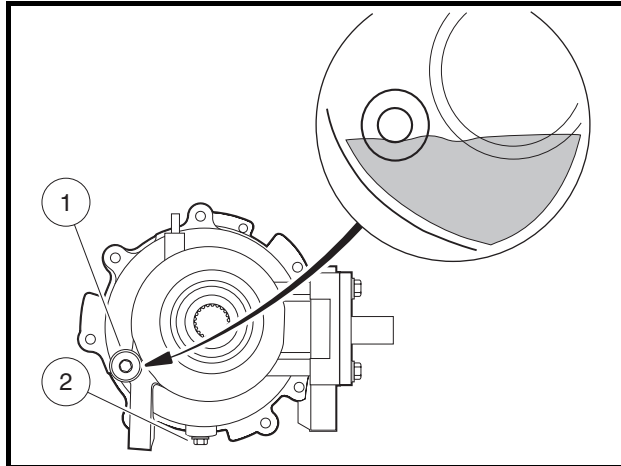
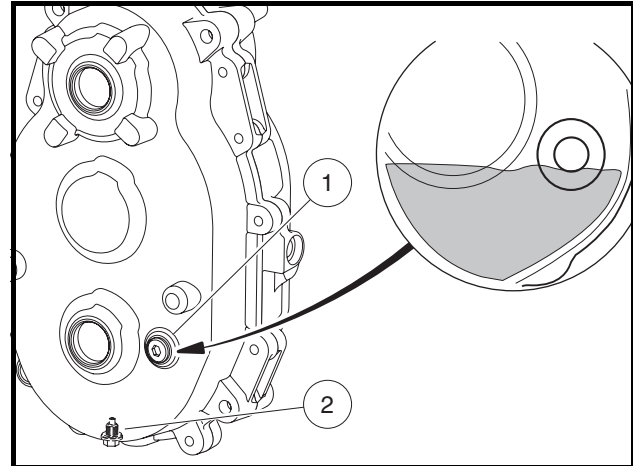
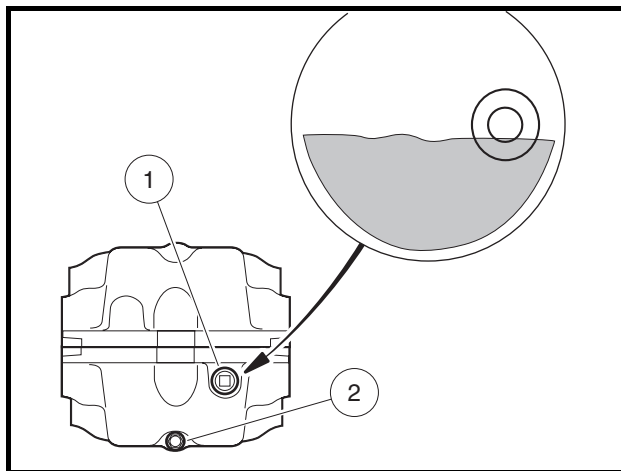

Figure 10-16 Front Differential Lubrication Level
Figure 10-17 Transmission Lubrication Level
Figure 10-18 Rear Differential Lubrication Level
Each gearcase component is equipped with two oil port plugs (1 and 2) (**Figure 10-16, Figure 10-17, and Figure 10-18**). When the vehicle is on a level surface, use the level indicator hole (upper plug) (1) as a lubricant level indicator. Lubricant level should be even with the bottom of level indicator hole (1).
Use the lower plug (2) for drainage (**Figure 10-16, Figure 10-17, and Figure 10-18**). Remove both plugs to allow the lubricant to drain faster. **See preceding NOTE.**
Clean and install the drain plug (2) and washer before filling the front differential with new lubricant (**Figure 10-16, Page 10-12**). Tighten the drain plug to 9 ft-lb (12 N·m). Use a funnel when filling the gearcase through the lubricant level indicator hole (1). **See Periodic Lubrication Schedule on page 10-4.** Tighten the level indicator plug to 10 ft-lb (14 N·m).
Clean and install the drain plug (2) before filling the transmission with new lubricant (**Figure 10-17, Page 10-12**). Tighten the drain plug to 8 ft-lb (11 N·m). Remove the fill plug on the top of the transmission case and use a funnel when filling with lubricant. **See Periodic Lubrication Schedule on page 10-4.** Apply Loctite 567 to the threads of the fill plug and tighten to 21 ft-lb (28 N·m).
Clean and install the drain plug (2) and washer before filling the rear differential with new lubricant (**Figure 10-18, Page 10-12**). Tighten the drain plug to 8 ft-lb (10.8 N·m). Use a funnel when filling the rear differential through the lubricant level indicator hole (1). **See Periodic Lubrication Schedule on page 10-4.** Apply Loctite 567 to the threads of the level indicator plug and tighten 21 ft-lb (28 N·m).